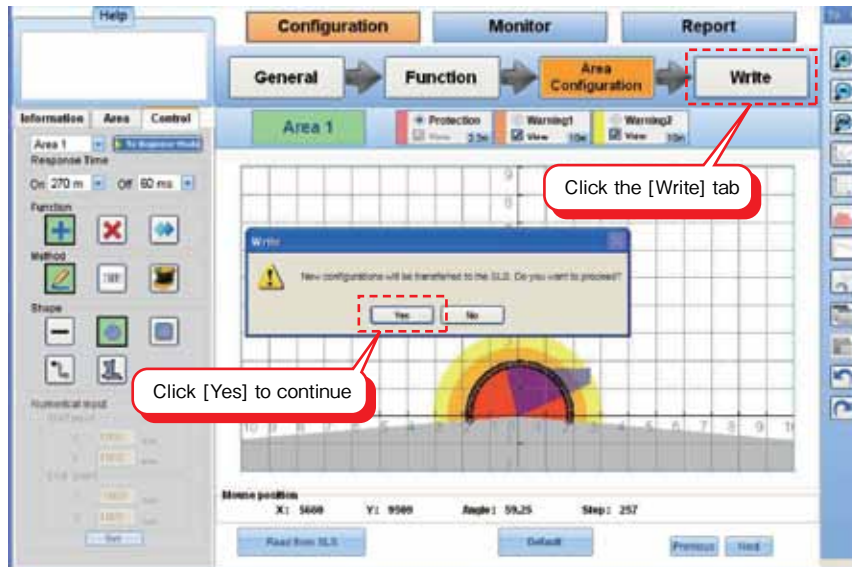

Figure 7-50. Writing configurations to SE1L
- Click the [Write] tab as shown in figure 7-50.
- A window requesting for confirmation as shown in figure 7-50 will be displayed.